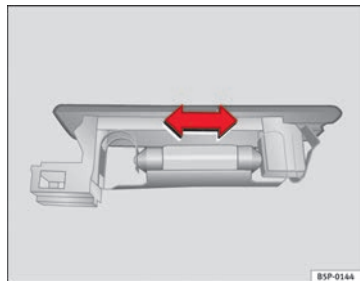

Fig. 177 Luggage compartment light
- Press the bulb sideways and remove it from its housing ⇒ fig. 177.